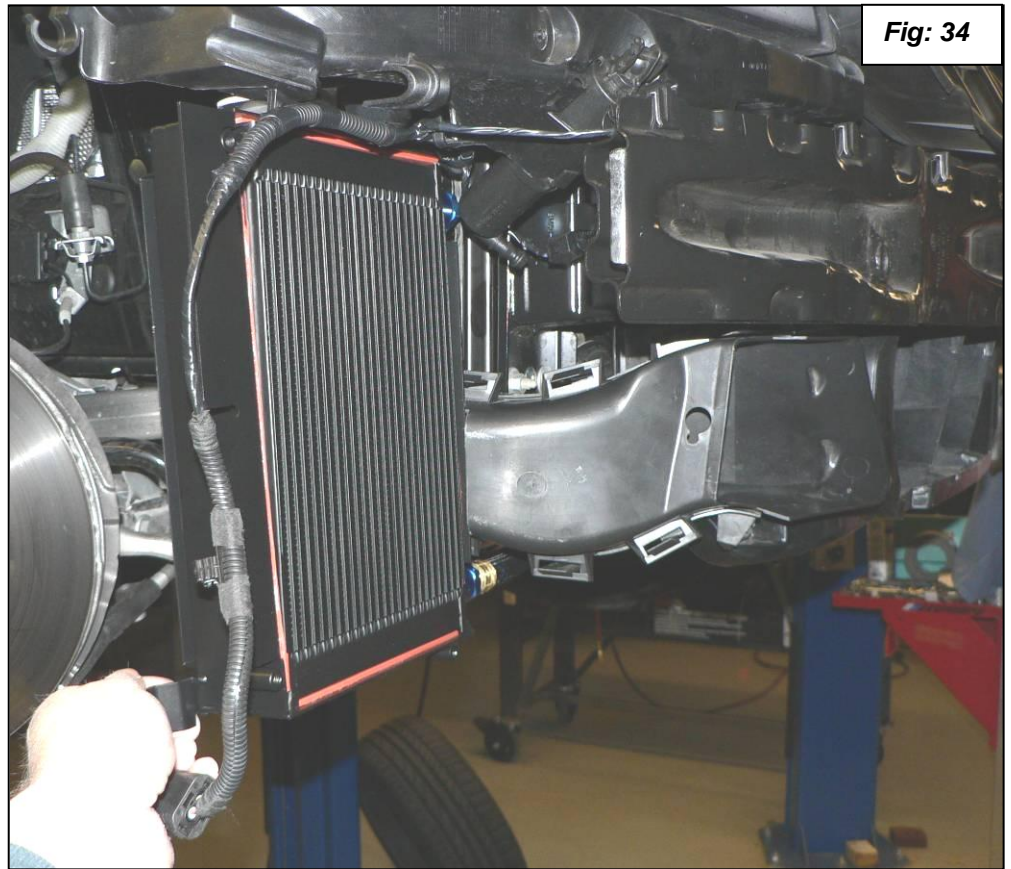

Fig: 34
43. When you pull the cooler into the position it will be with the bumper attached, and the clearance should be flush. **See figure 34**.